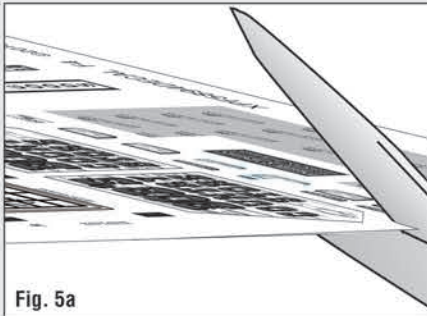

Fig. 5a
- Cut out desired Decal. Avoid handling the back and position in desired location. Rub over entire Decal with a burnisher or dull pencil (Fig. 5a and 5b).